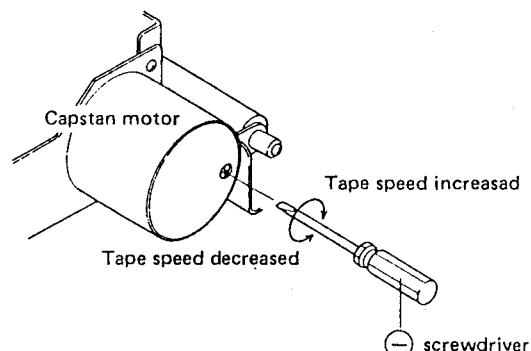

Fig. 12-2 Tape speed adjustment
- 2. Play the 3kHz portion of the STD-301 test tape. At the beginning of the tape, the frequency should lie between 3000Hz and 3010 Hz, and may be adjusted by turning the variable resistor located in the capstan motor adjustment hole shown in Fig. 12-2. Turning clockwise increases tape speed, while turning counterclockwise decreases the speed.